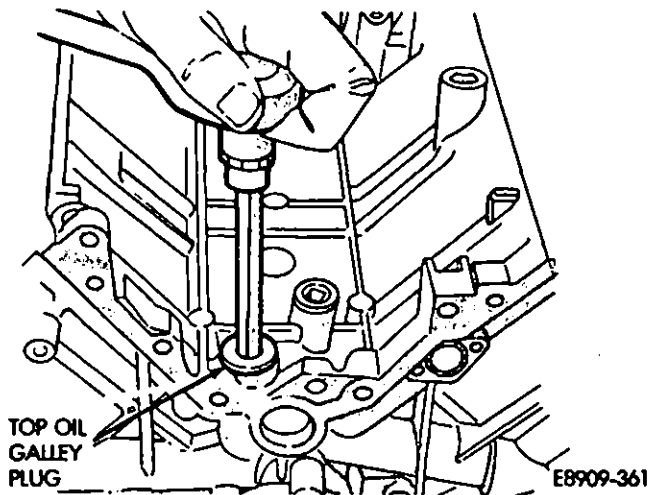

Fig. 14—Top Oil Galley Plug
(3) Remove oil galley plug on the top of the block (Fig. 14).